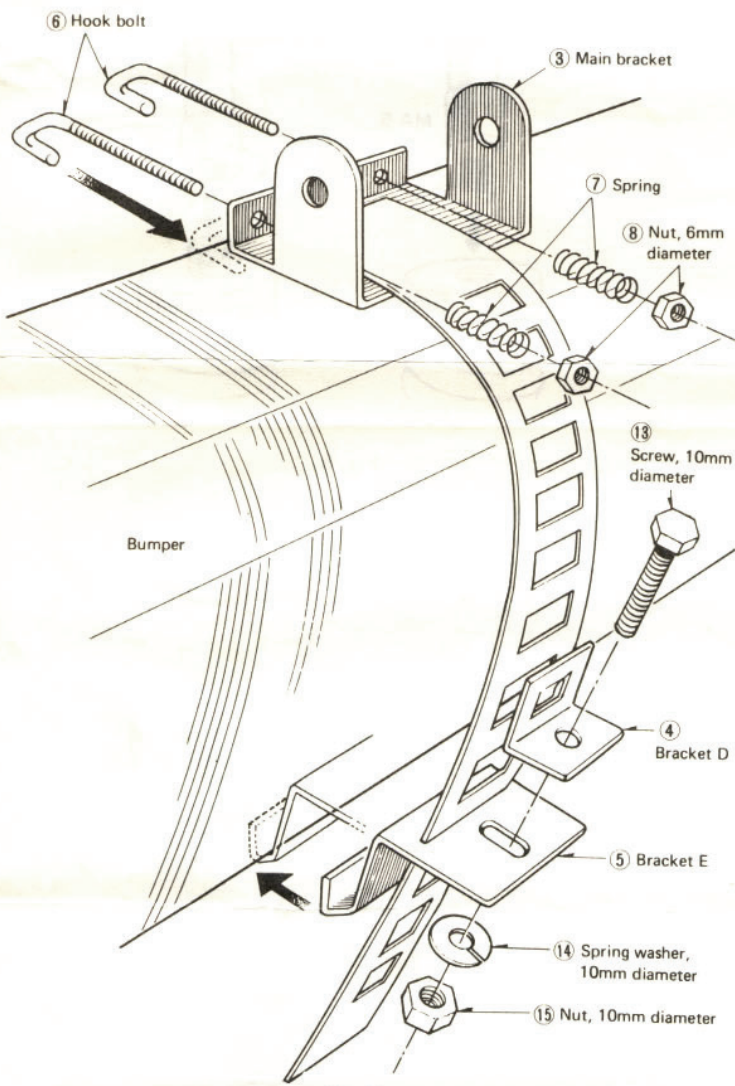

Fig. 2
1. Main Bracket (see Fig. 2)
- Insert the two hook bolts(6) into the main bracket and assemble with the spring(7) and nut(8).
- Attach the hook bolts(6) to the upper side of the bumper.
- Assemble the bracket E(5) with the main bracket as shown in Fig. 2 and hook it on the lower side of the bumper.
- Hook the bracket D(4) properly on the main bracket and secure the bracket E with the screw (13), spring washer (14) and nut(15).